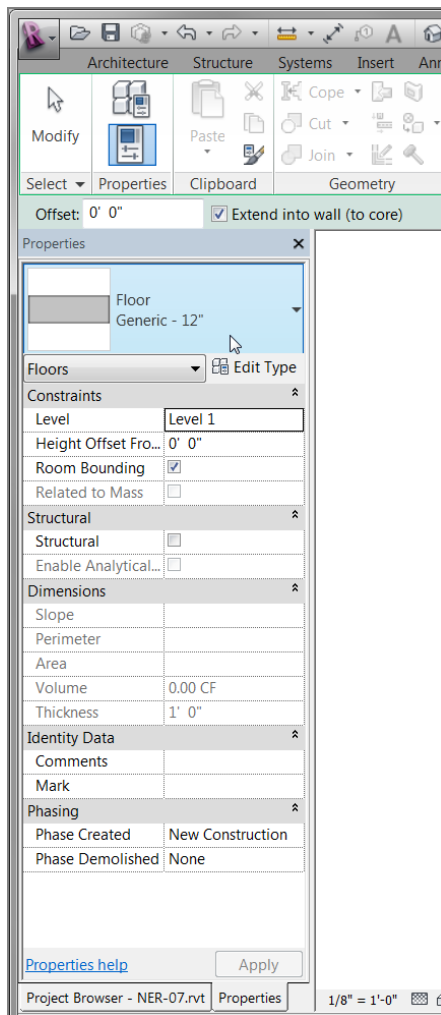

FIGURE 6.2: Changing the focus of the properties
4. Switch to the Properties dialog. Make sure Floors is the current selection, as shown in Figure 6.2.